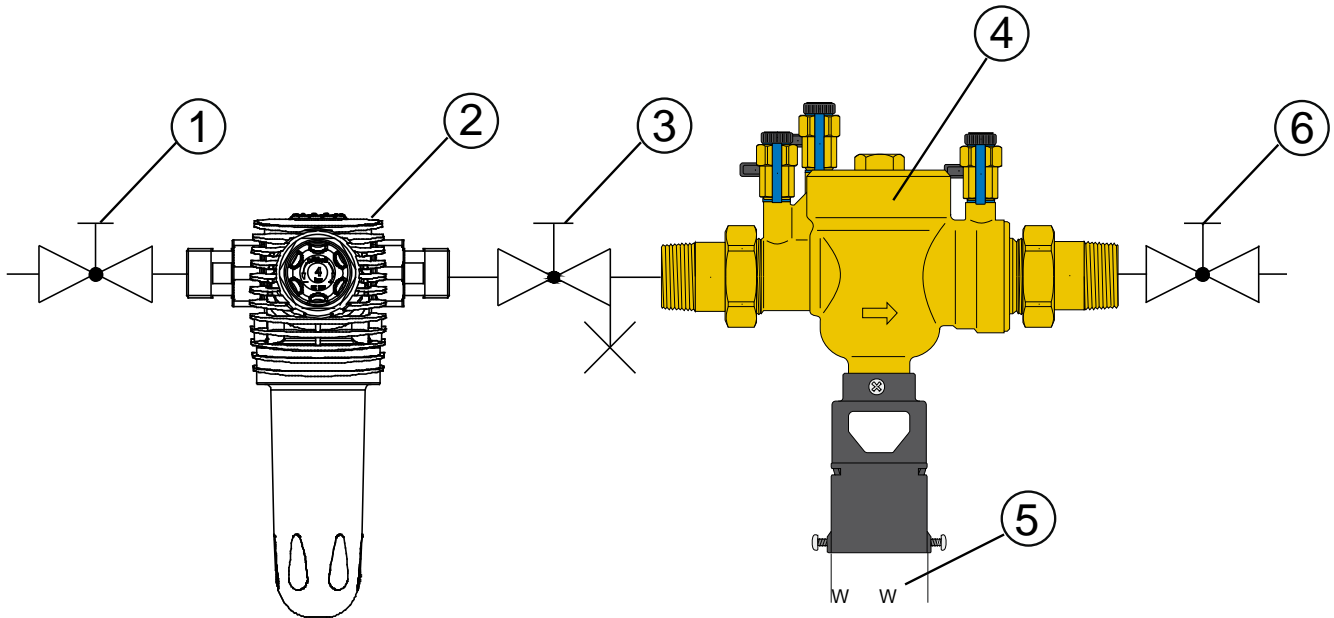

Fig. D-1: Installation example Euro system separator GENO-DK 2
- Install according to installation drawing (Fig. D-1).